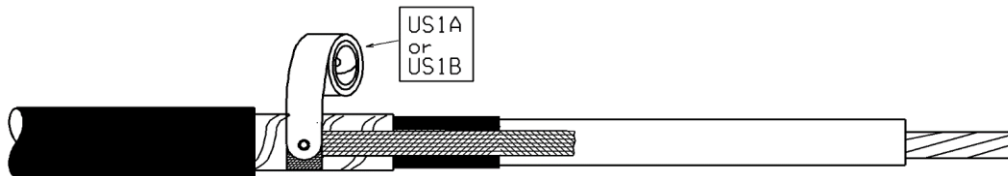

Figure 17
4. Wrap the constant force spring over the braid where it is wrapped around the cable. Use up all of the spring. Refer to Figure 17.